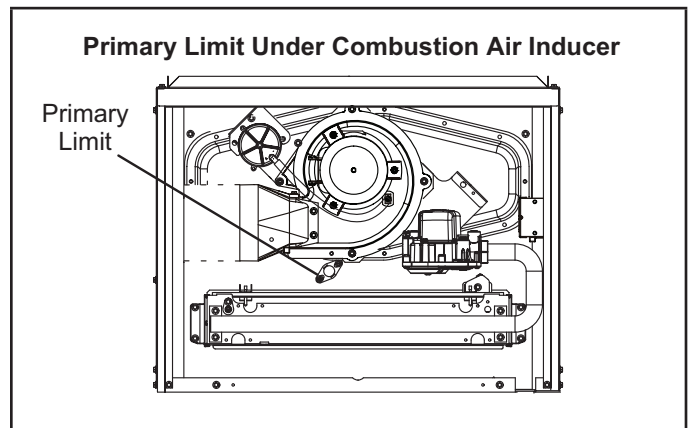

FIGURE 7
The primary limit on ML180UHE(X) units is located in the heating vestibule panel under the combustion air inducer. See figure 7. When excess heat is sensed in the heat exchanger, the limit will open. If the limit is open, the integrated control energizes the supply air blower and closes the gas valve. The limit automatically resets when unit temperature returns to normal.